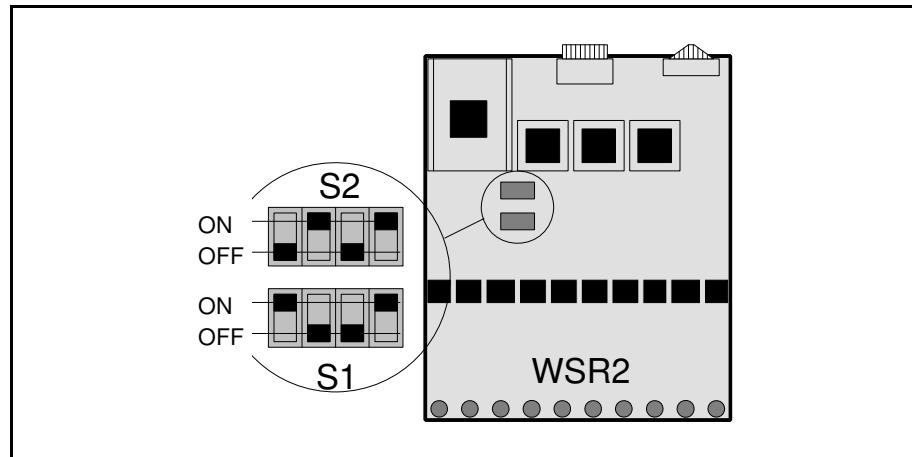
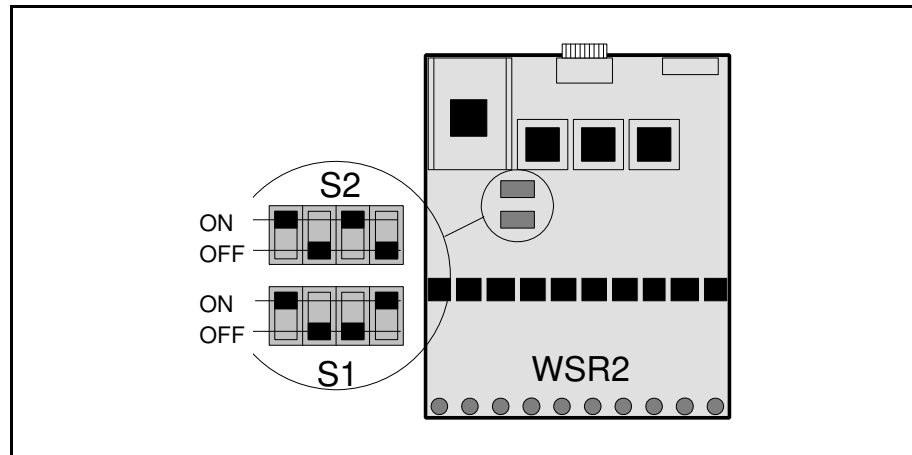

Figure 15-1. Left WSR2 board.
Figure 15-2. Right WSR2 board.
The WSR2 boards have two switches each, S1 and S2. The boards are located leftmost and rightmost on the lower part of the X wagon. The boards are shown in Figure 15-1 and Figure 15-2. In some cases WSR2 switches may be found in a different location as to the ones shown in the figures below. The markings though are always the same.
- The switch setting for the WSR2 board on the left-hand side of the X wagon is shown in Figure 15-1. S1 should be set to ON-OFF-OFF-ON and S2 to OFF-ON-OFF-ON.
- The switch setting for the WSR2 board on the right-hand side of the X wagon is shown in Figure 15-2. S1 should be set to ON-OFF-OFF-ON and S2 to ON-OFF-ON-OFF.